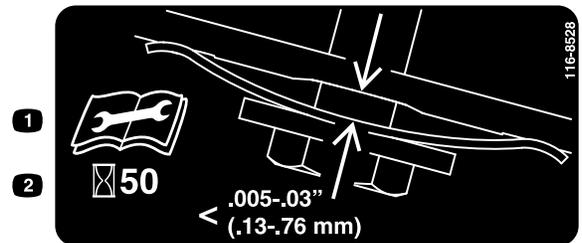

Figure 37
3. Hold a feeler gauge set between 0.005 and 0.03 inches (0.13 and 0.76 mm) against the wall and slide it down behind the belt tension spring; refer to Figure 37.